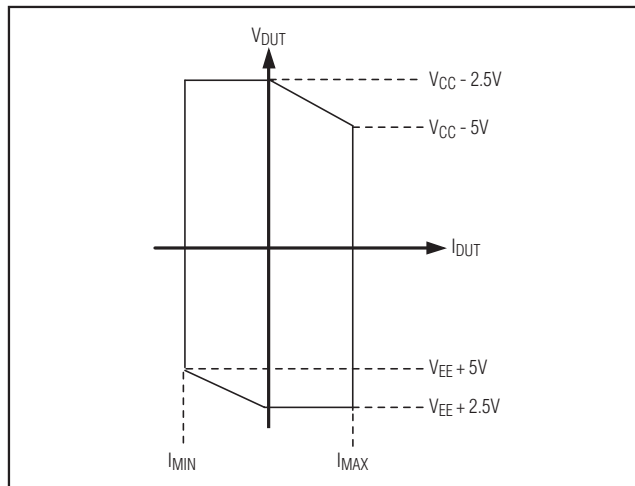

Figure 2. Output Swing
- 2) The voltage drop across the sense resistor and internal circuitry in series with the sense resistor. At full current the combined voltage drop is 2.5V, 1V across the resistor and 1.5V across the switches. This voltage is not all in addition to the overhead requirement. There is some overlap of the two effects; see Figure 2.
Neglecting the effects of items 3 and 4, the output capabilities of the DPS are demonstrated by Figure 2.
Figure 2 shows that for zero DUT current, the DUT voltage swing is from ( $V_{EE} + 2.5V$ ) to ( $V_{CC} - 2.5V$ ). For positive DUT currents, the maximum voltage drops off